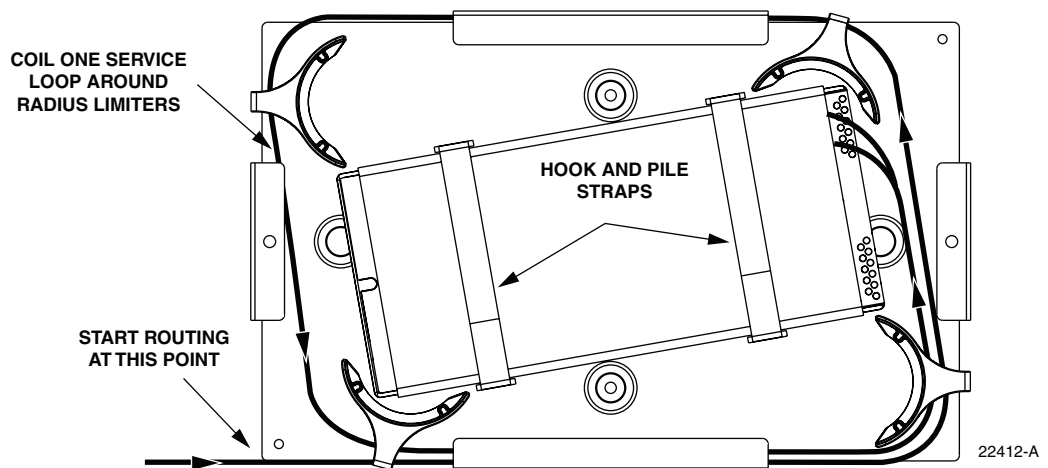

Figure 26. Feeder Splice Tray Replacement
12. To replace the splice tray, route the attached subunits (there should be two service loops) around the splice tray holder radius limiters as shown in Figure 26. Avoid twisting or kinking the fiber subunit tubes. Maintain a 1.5-inch (3.81 cm) minimum bend radius for all non reduced bend radius fiber.